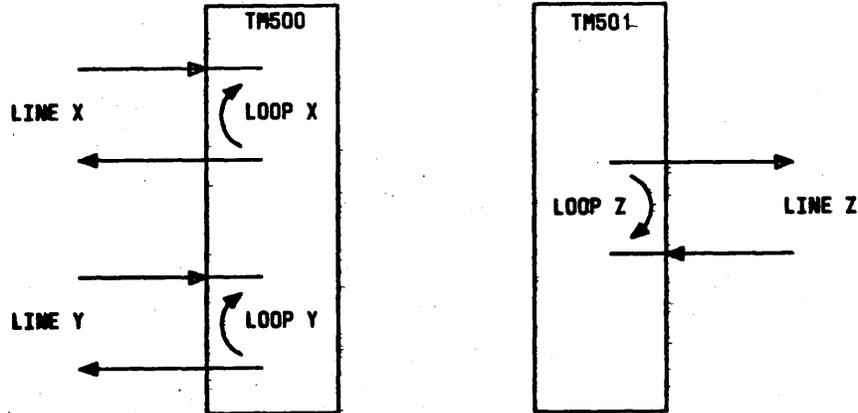

Fig. 8—Loop Functions
**2.21** The AMC circuit pack has an ACO pushbutton, a RESET pushbutton, and three looping toggle switches (Fig. 7). The ACO pushbutton is used to silence office alarms. A green LED associated with the ACO button lights whenever the ACO button is depressed. If the BCM is in an alarm condition, the ACO LED remains lighted until the alarm is cleared or a new alarm occurs. The RESET pushbutton is used to condition the logic circuitry to a sane starting point. Any service carried by the BCM is put "on hook" whenever the RESET pushbutton is depressed. For this reason the button is recessed to prevent accidental use. The RESET pushbutton should be used during start up procedures and when a circuit pack is replaced. It may also be used as a first step in trouble clearing. The looping toggle switches are normally in the down position. Moving a toggle switch to the up position loops the associated line toward the BCM (Fig. 8), and lights the summary LOOP LED on the AMC circuit pack and the associated LOOP LED on circuit pack TM500 or TM501. Whenever a line is looped, the BCM32000 applies an "all ones" signal to the transmit path (to connecting equipment) of the digital line.